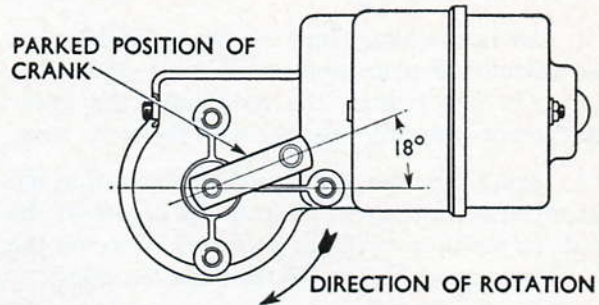

Fig. U.3. Wiper motor with crank in parked position—right drive
1. Rotate the motor to the parked position (Figs. U.3 and U.4) and install the mounting frame so that the earth strip is between the motor lower mounting boss and the frame.